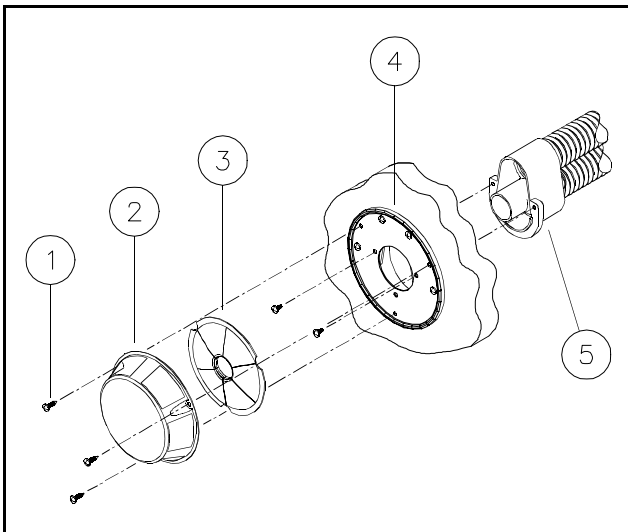

Figure 11 - Vent Terminal Housing
12. Remove the three (3) screws securing the vent cover to the vehicle's exterior surface. See Figure 11.
13. Remove the two (2) screws securing the inner disk to the vent terminal housing. See Figure 11.